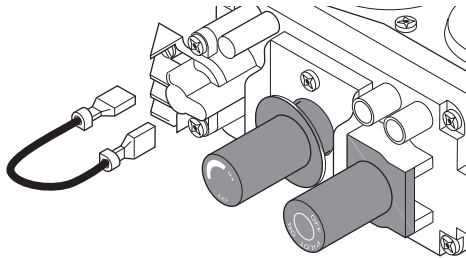

Figure 23 - Disconnecting Jumper Wires From Control Valve
1. Disconnect jumper wires from the control valve (see **Figure 23**).